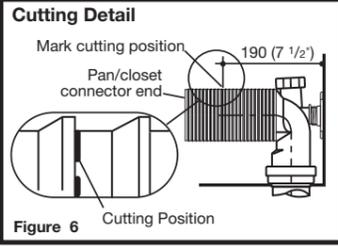

Figure 6
- 6- Cut pan/closet connection end at the back of the serration which is nearest to the mark. Remove any rough edges and chamfer with fine file, as detailed in Fig. 6.